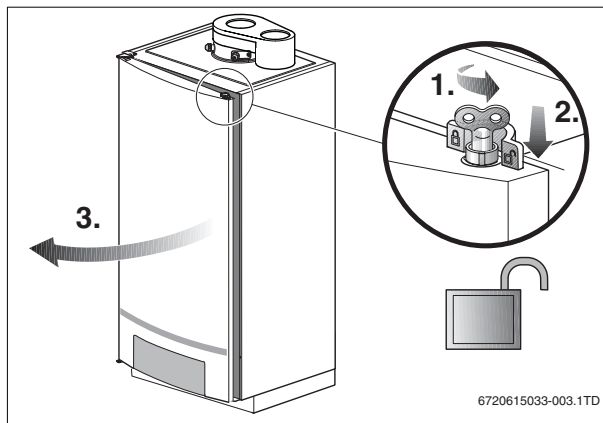

Fig. 2 Opening the boiler door
- ▶ Open the boiler door by turning the vent key through ¼ rotation (→ fig. 2).